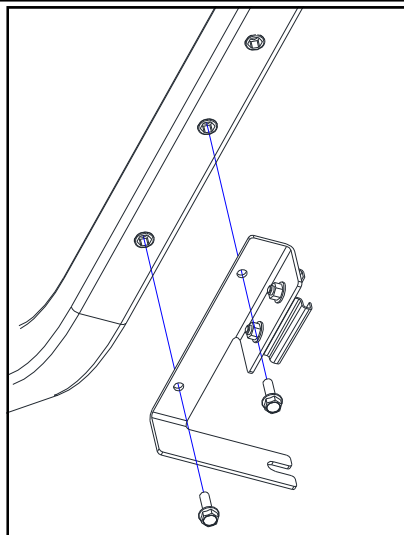

Fig. 4.2
4.2 Per Figure 4.2 (on next page), fasten the supplied left rear light bracket and SMV bracket to the ROPS using the factory installed inserts and previously removed hardware.